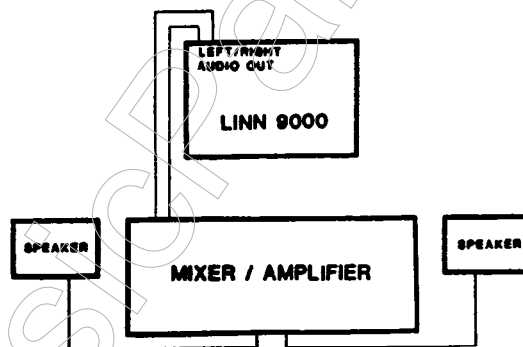

Figure 1: Hooking up the Linn 9000 to Mixer/Amplifier
2. Using 1/4" mono phono plugs, connect the LEFT or RIGHT or both AUDIO OUT jacks to a mixer or amplifier. (See Figure 1) Adjust the volume level of your amplifier to a comfortable average volume, to prevent damage to your speakers.